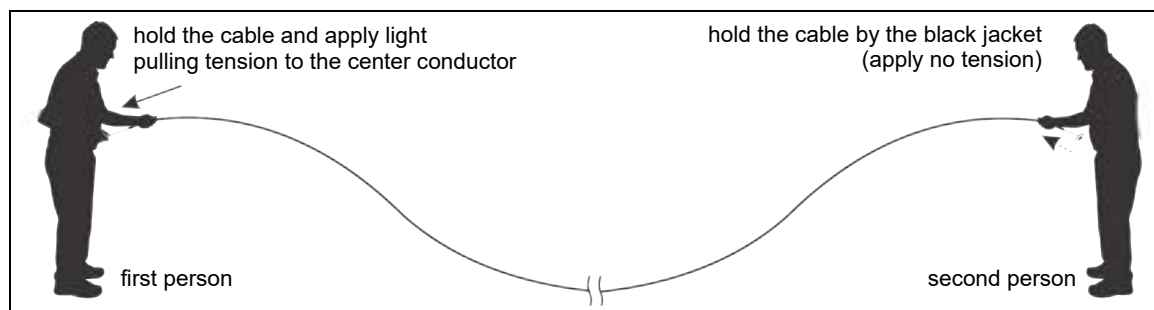

Figure 16: FlexZone cable conditioning (part 2 cable flossing)
1. The first person begins by holding the cable by the black jacket with one hand and applying light pulling tension to the center conductor with the other (see Figure 16:). The second person holds the cable by the black jacket and allows the center conductor to move freely (no tension applied). The first person stops pulling when they encounter an increase in resistance or the center conductor can be pulled no further.